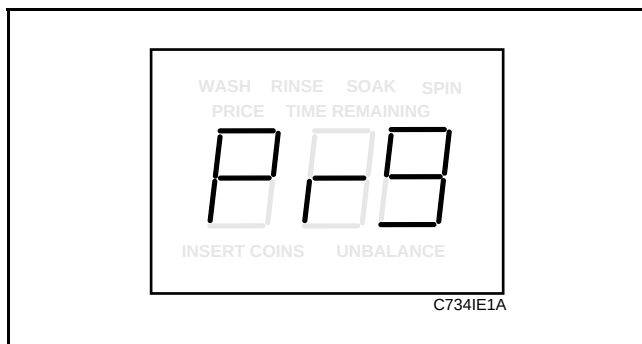

Figure 50
3. Press the DELICATES (+) pad or the COLD (-) pad to scroll through the programmable options until “Prg” appears in the VFD. See **Figure 50**.